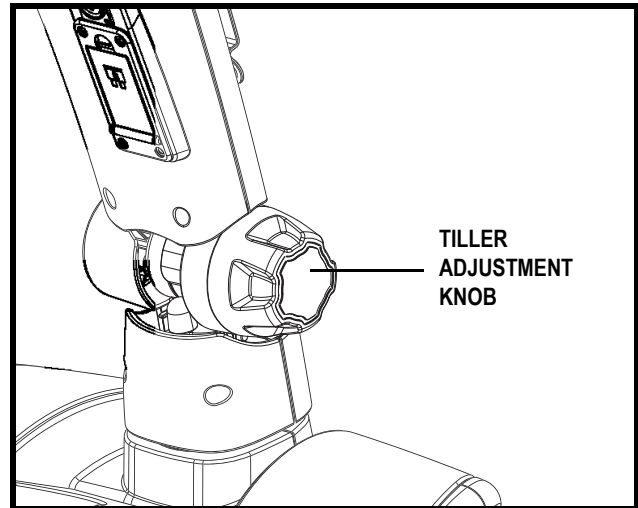

Figure 15. Tiller Adjustment
1. While supporting the tiller, turn the tiller adjustment knob anticlockwise to loosen the tiller. See figure 15.